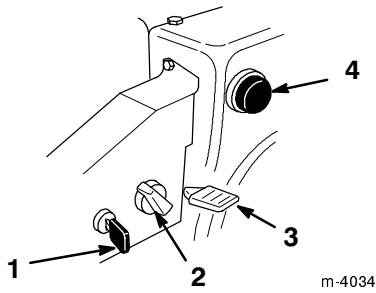

Figure 4
- **Ignition Switch** (Fig. 4)—Insert the key before starting the engine. To stop the engine, remove the key.
- **Choke** (Fig. 4)—Rotate the choke clockwise to the *On* position to start a cold engine. As the engine warms up, gradually move the choke counterclockwise to the *Off* position.
- **Throttle** (Fig. 4)—Move the throttle upward to increase the engine speed and downward to decrease the engine speed. Move the throttle completely downward to stop the engine.
- **Primer** (Fig. 4)—Press the primer to pump a small amount of gasoline into the engine for improved cold-weather starting.
2. Remove the key from the ignition switch (Fig. 4).
3. Pull the choke knob off (Fig. 4).
4. Rotate the choke (Fig. 4) to the *On* position.
5. Insert the ignition key (Fig. 4).
6. Cover the hole in the center of the primer (Fig. 4) with your thumb and slowly push in the primer three times.
8. After the engine starts, immediately rotate the choke (Fig. 4) to the $3/4$ position. As the engine warms up, rotate the choke to the $1/2$ position. When the engine warms up sufficiently, rotate the choke to the *Off* position.
6. Close the fuel shutoff valve (Fig. 4).